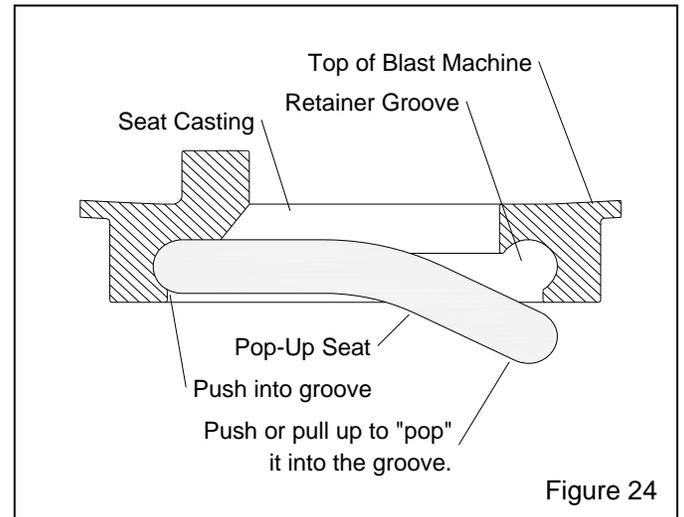

Figure 24
**6.8 Replacing the Pop-Up Seal - Figure 24**